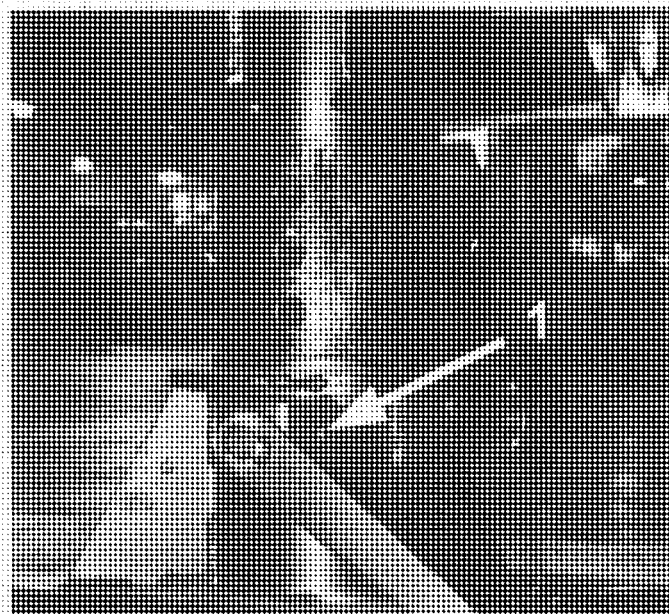

Figure 14. Roll Pin Access Hole
- a. If the base has an access hole aligned with the roll pin (on the opposite side from the slot) remove the pin with a hammer and punch. See FIGURE 14.
- c. If neither of the previous two methods works, drill a 3/8 inch diameter access hole in the spring cage, aligned with the roll pin; then remove the pin with a hammer and punch. See FIGURE 14 for location of access hole. **IMPORTANT:** Before drilling, mark the hole location using a center punch to prevent the drill bit from 'walking'. After drilling hole, remove all metal shavings to prevent them from damaging the seat mechanism.